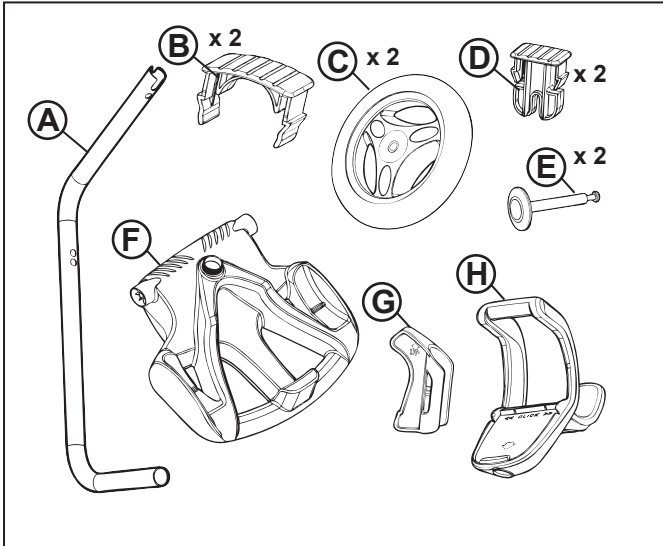

Figure 1. Transport Caddy Assembly Components
- Transport and storage caddy (models: EX5000 and EX6000 only) Components (Figure 1)